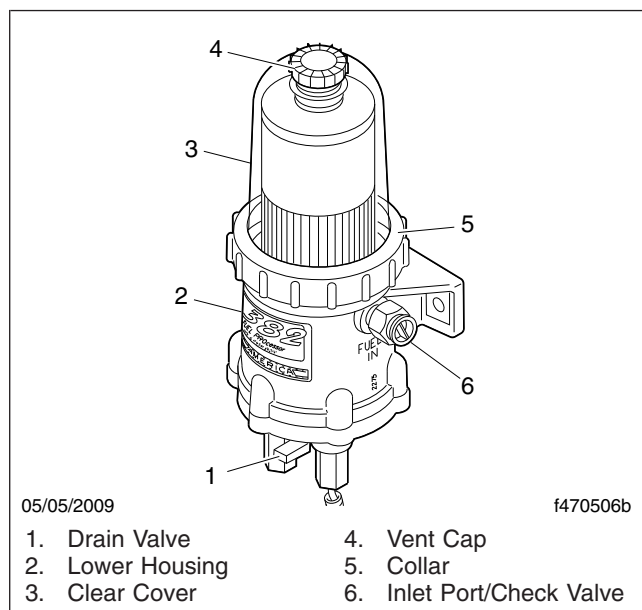

Fig. 2, DAVCO Fuel/Water Separator (Fuel Pro 382 Shown)
4. Remove the vent cap (**Fig. 2**, Item 4) and open the drain valve (**Fig. 2**, Item 1) to drain the fuel completely, then close the drain valve.